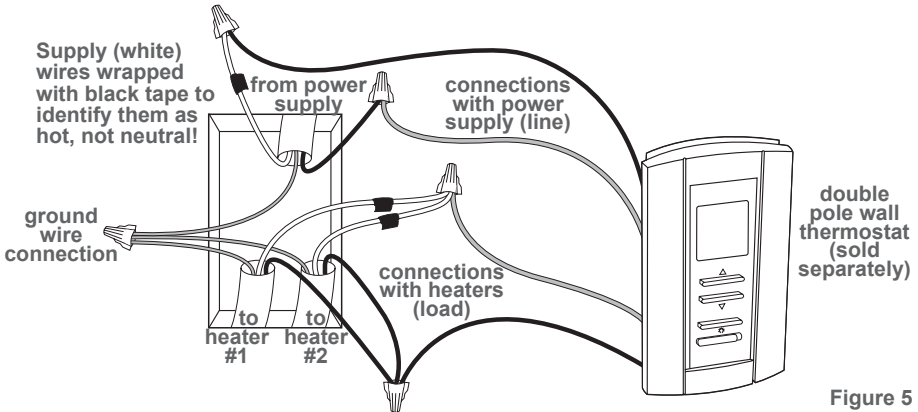

Figure 5
2. All the 3-wire connections must be made in the electrical junction box of the wall thermostat (See Figures 5 and 10)! They cannot be made in either of the wiring compartments of the heaters. An extra deep electrical junction box is recommended so you'll have enough room for all the wires. Tuck all wires back into the junction box and make sure the connections are tight.